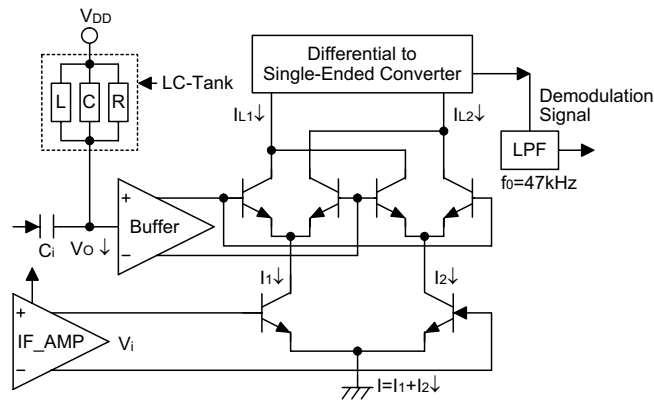

Figure 7 Quadrature detector
- Once the signal leaves the IF section, it must be demodulated so that the baseband signal can be separated from the IF signal. This is accomplished by the quadrature detector. A quadrature detector (Figure 7) uses a 90° phase shifter ( $C_i$ ), an L/C tuned circuit, and a phase comparator to demodulate FM signals.